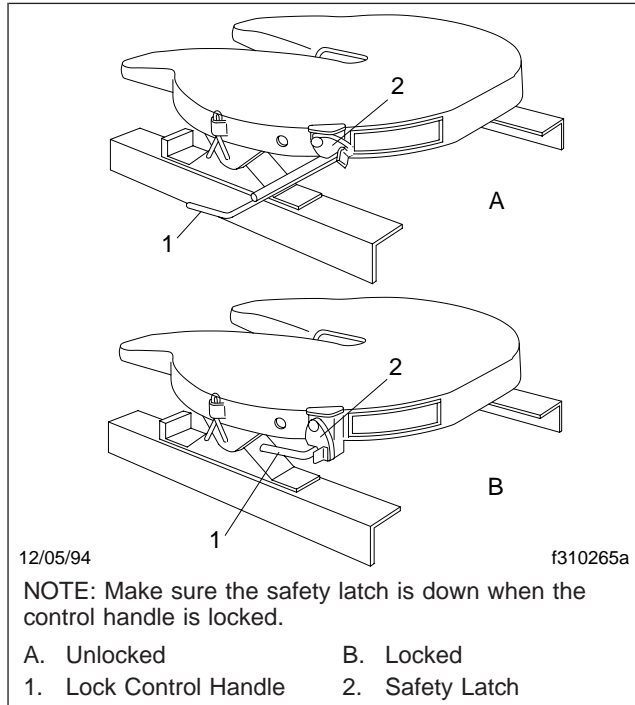

Fig. 8.8, Fontaine 5000 Series Fifth Wheel, Locking and Unlocking
6. Make a visual and physical check for positive kingpin lockup. When lockup has occurred, the fifth wheel control handle will have moved to the locked position. Make sure that the safety latch is down over the lock control handle. See **Fig. 8.8**. This will hold the control handle in the locked position.
6. Release the kingpin locking mechanism by lifting the safety latch and pulling the lock control handle to the unlocked position. See Fig. 8.8.